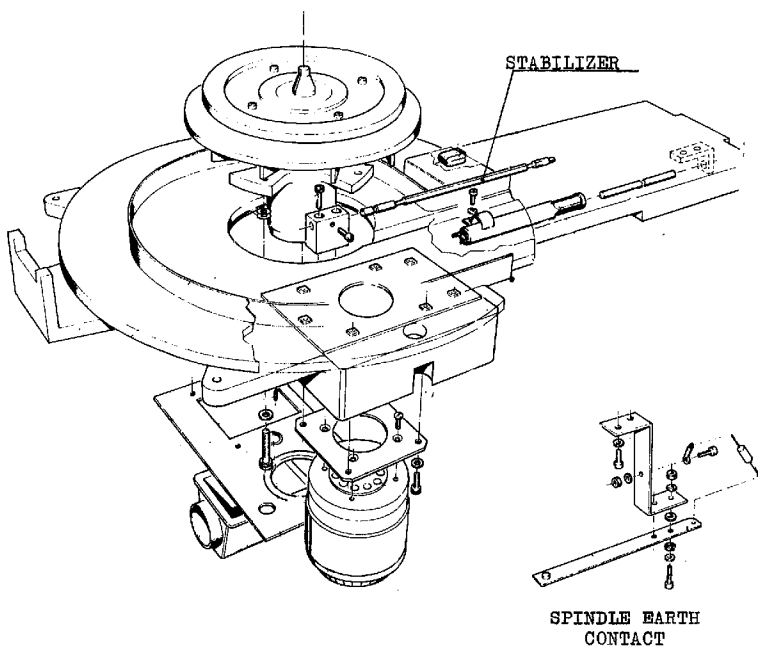

Fig. 7-38 SPINDLE AND PACK MOTOR
5.17 SPINDLE (fig 7-38)
4. Remove spindle earth contact fig 7-38.
5.18 PACK MOTOR (fig 7-38)
4. Loosen the screw clamping the stabilizer rod (see fig 7-38).